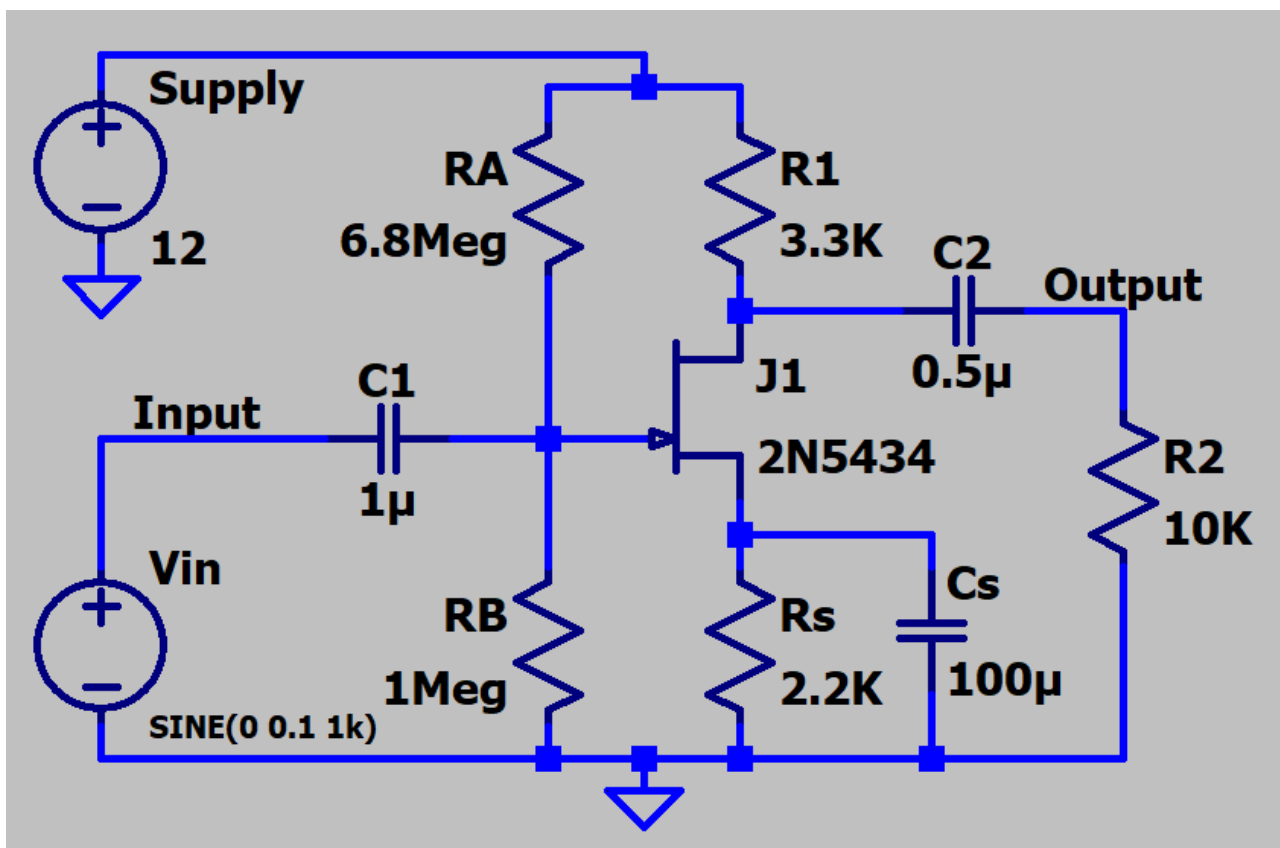

Fig. 3. JFET Common Source Amplifier
4. Assemble the amplifier circuit in Fig. 3.